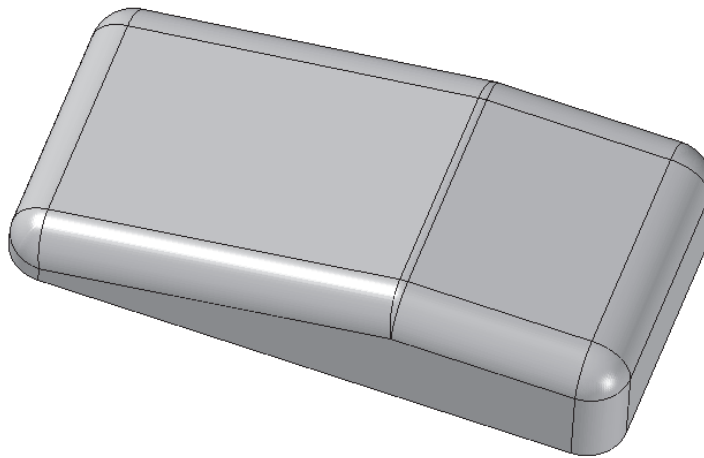

Figure 8-58 Viewing the model from the bottom after adding the draft and round
- c. Add rounds to the sharp edges of the model, refer to Figure 8-58.
6. Add a round of radius 8 to the sharp edges of the model, as shown in Figure 8-58.